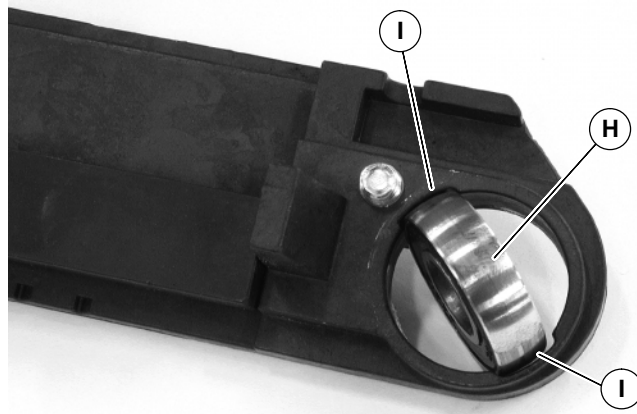

Figure 4
5. On head plate for desired output shaft side, insert bearing (H of Figure 4) into slot (I).